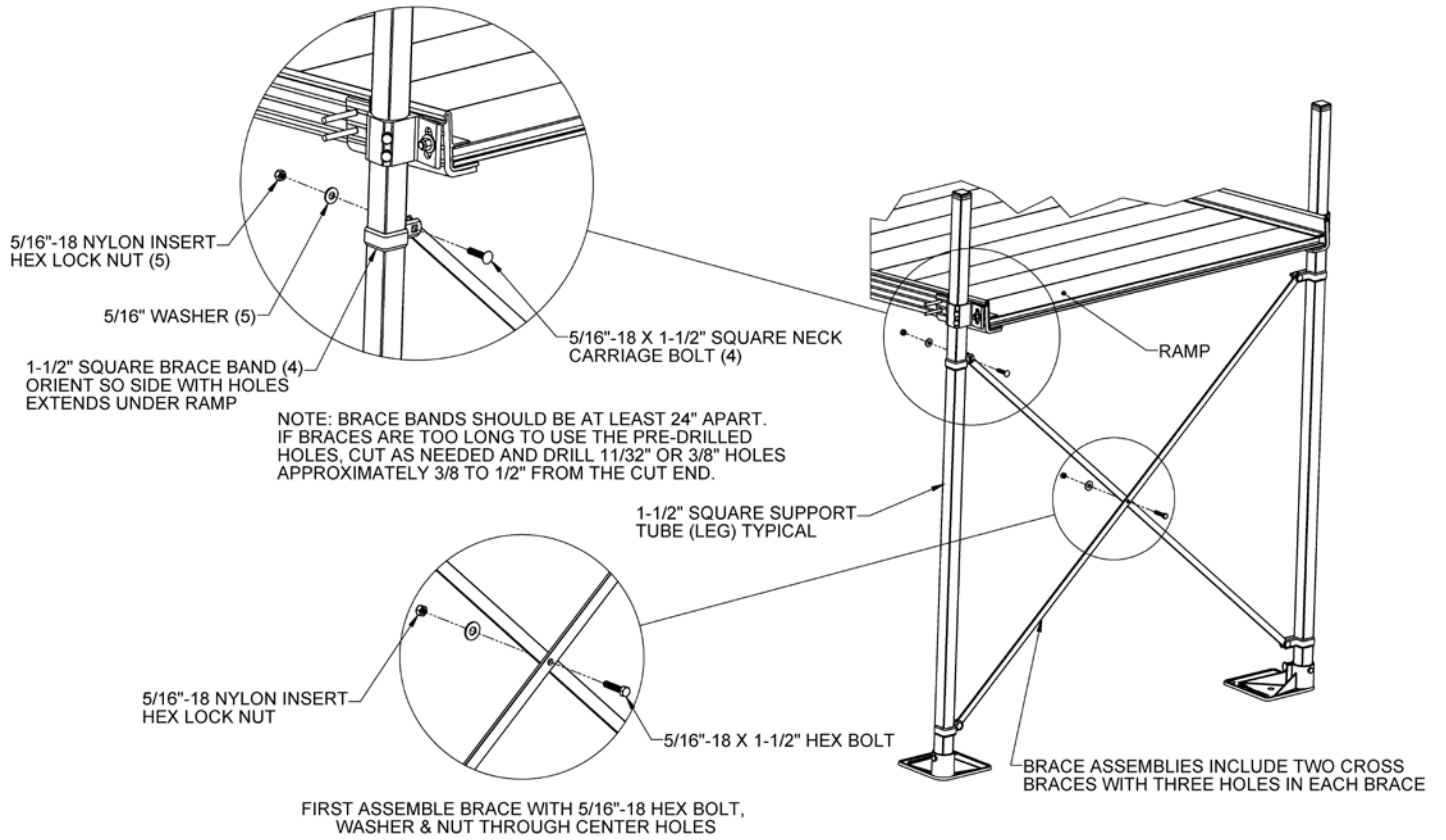

FIG. 23
- 4.14.3 Separate the ends of brace bands until they go around the 1-1/2" square tube and install two bands on each leg. Orient the bands so that the side with the holes extends under the ramp (FIG. 23).
- 4.14.6 Install brace assembly using four 5/16"-18 x 1-1/2" long carriage bolts, nuts and washers in the desired location (FIG. 23).